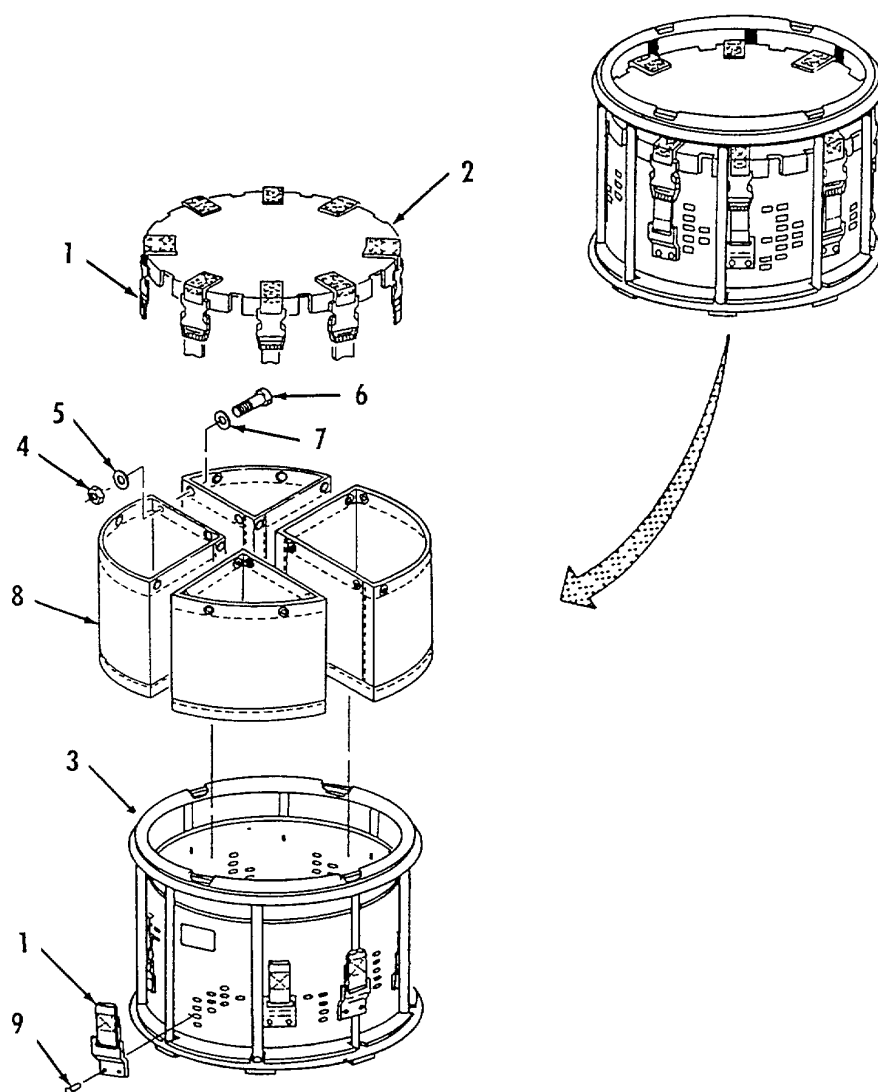

Figure 4-26. Nozzle and component Carrier Repair.
- a. Disassembly. Refer to figure 4-26.
- d. Assembly. Refer to figure 4-26.
- (1) Install strap (1) on carrier (3) with two rivets (9). Repeat for seven remaining straps.
- (2) Position four nozzle bags (8) into carrier (3).
- (3) Install eight flat washers (7), screws (6), flat washers (5) and self locking nuts (4).
- (4) Position cover (2) on carrier (3) and connect eight straps (1).